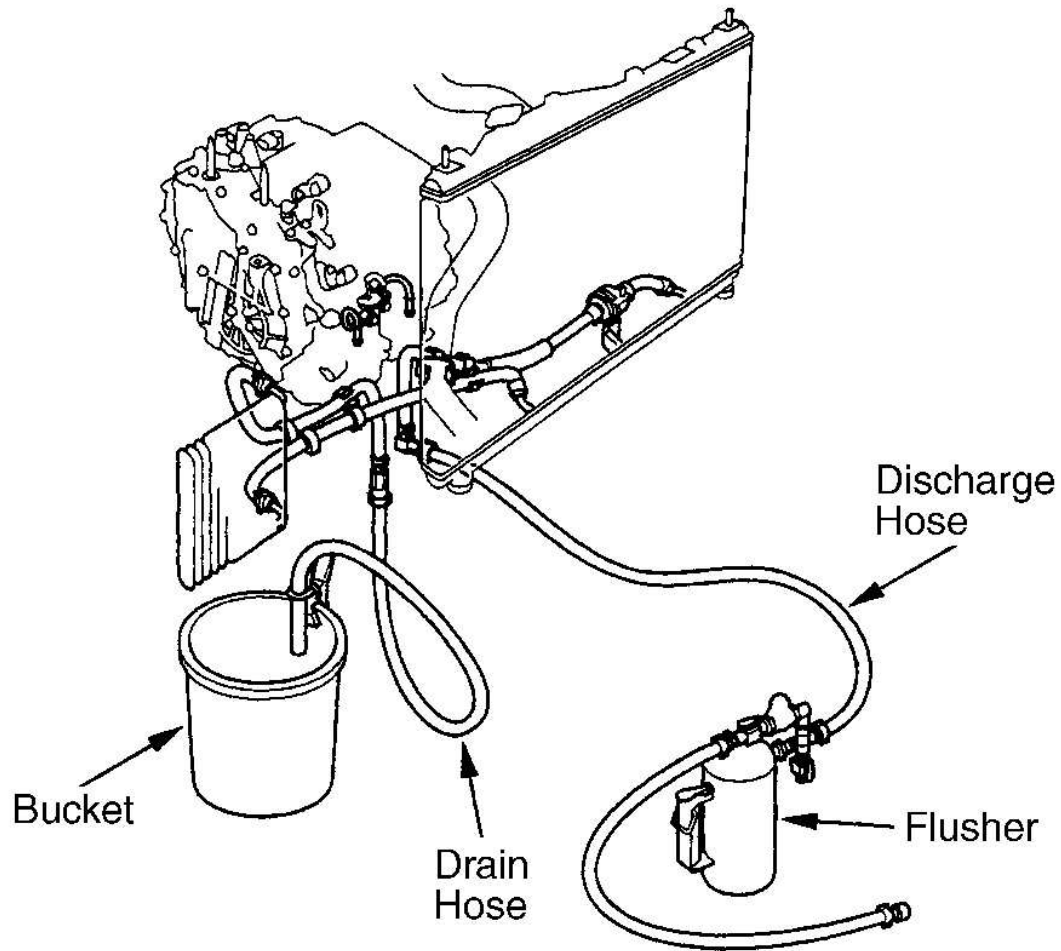

Fig. 2: Flushing Transaxle Oil Cooler
5. Connect the drain hose to the inlet line on the ATF cooler using a clamp. Securely clamp the opposite end of the drain hose to a bucket or floor drain. See **Fig. 2** .